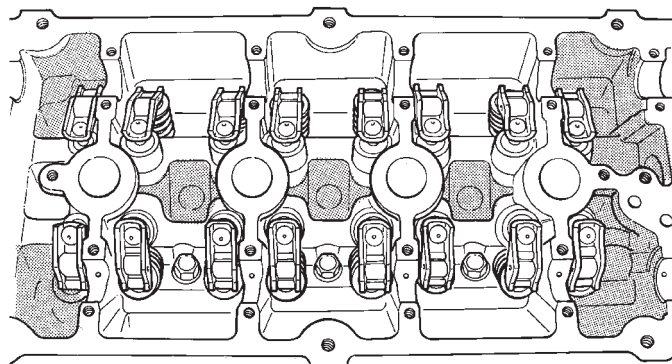

Fig. 33 Cam Follower Assemblies—Installation
(1) Lubricate with clean oil and install cam follower assemblies in their original position on the hydraulic adjuster and valve stem (Fig. 33).
(2) Install the camshafts. Refer to procedure previously outlined in this section.
(3) Install timing belt, sprockets and covers using procedure outlined in this section.
(4) Install cylinder head cover using procedure outlined in this section.